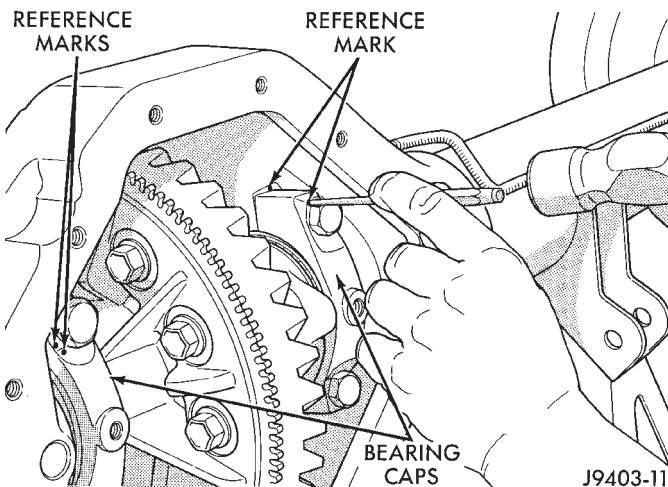

Fig. 19 Mark For Installation Reference
(3) Mark the differential housing and the differential bearing caps for installation reference (Fig. 19).